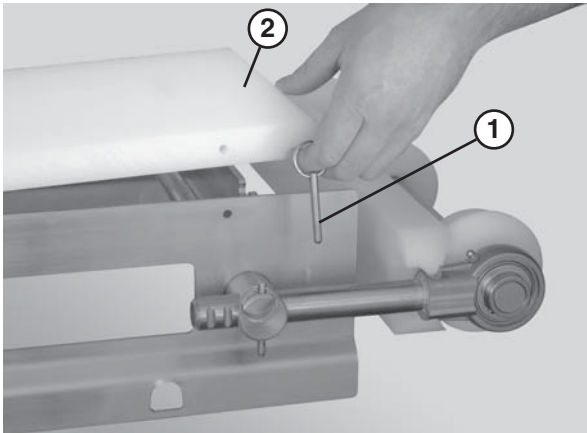

Figure 44
1. Remove the pull pins (Figure 44, item 1) that connect the guide (Figure 44, item 2) to the frame.